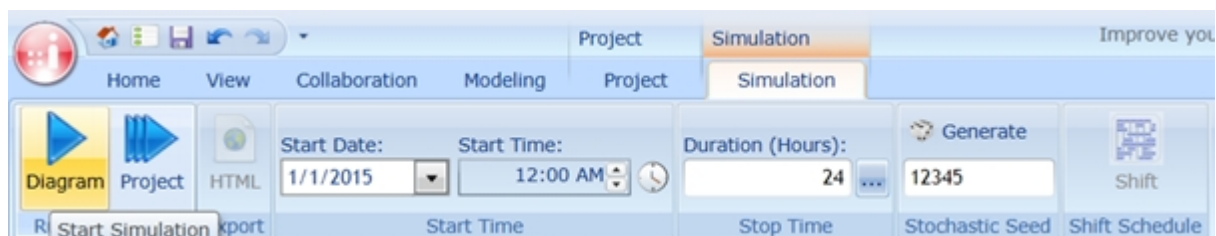

Figure 1: Simulating a diagram
- Start the simulation by clicking the simulation button on the simulation tab of the ribbon menu (figure 1)